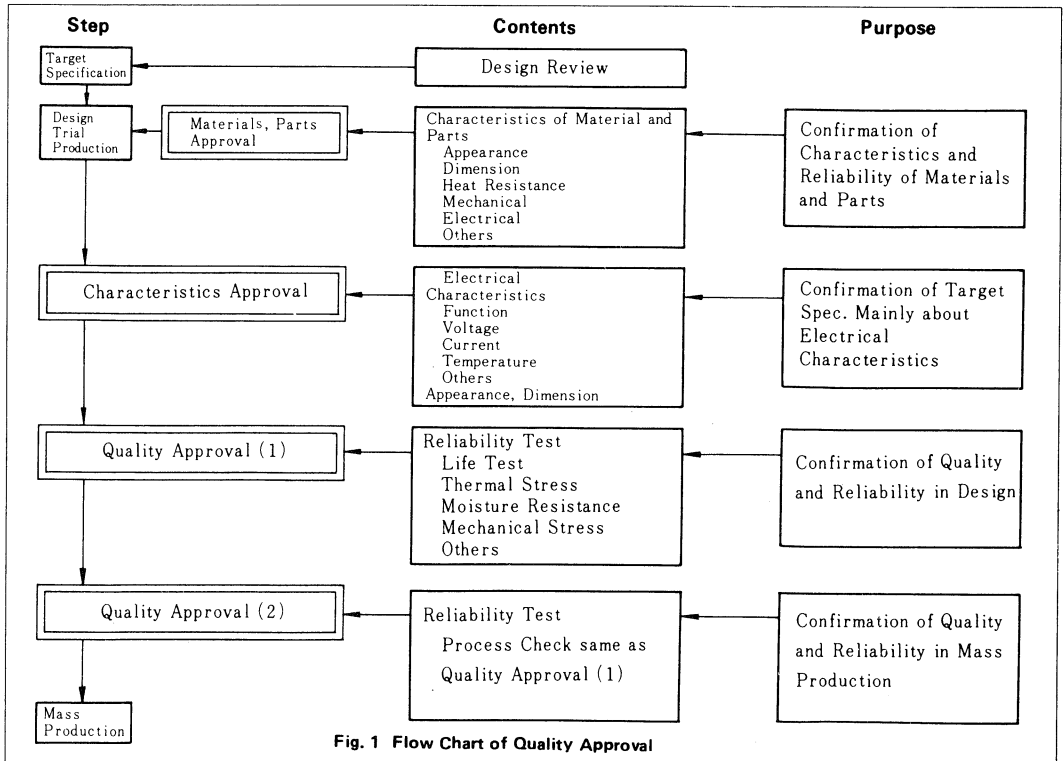

Fig. 1 Flow Chart of Quality Approval
- (1) The third party executes approval objectively from the stand point of customers.
- (2) Fully consider past failure experiences and information from field.
- (3) Approval is needed for design change and work change.
- (4) Intensive approval is executed on parts material and process.
- (5) Study process ability and fluctuation factor, and set up control points at mass production.
- Considering the views mentioned above, quality approval shown in Fig. 1 is executed.